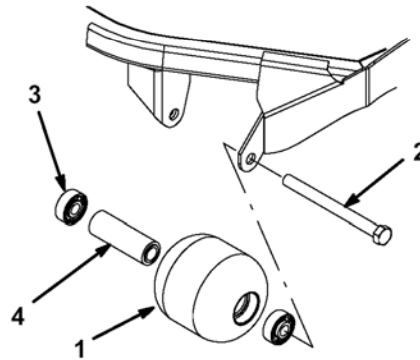

Figure 4
1. Remove roller mounting bolt (Fig. 4).
4. Inspect roller housing, bearings, and bearing spacer for damage (Fig. 4). Replace damaged components and re-assemble.
1. Press first bearing into roller housing (Fig. 4). Press on outer race only or equally on inner and outer race.
2. Insert spacer (Fig. 4).
3. Press second bearing into roller housing (Fig. 4) pressing equally on inner and outer race until the inner race comes in contact with spacer.